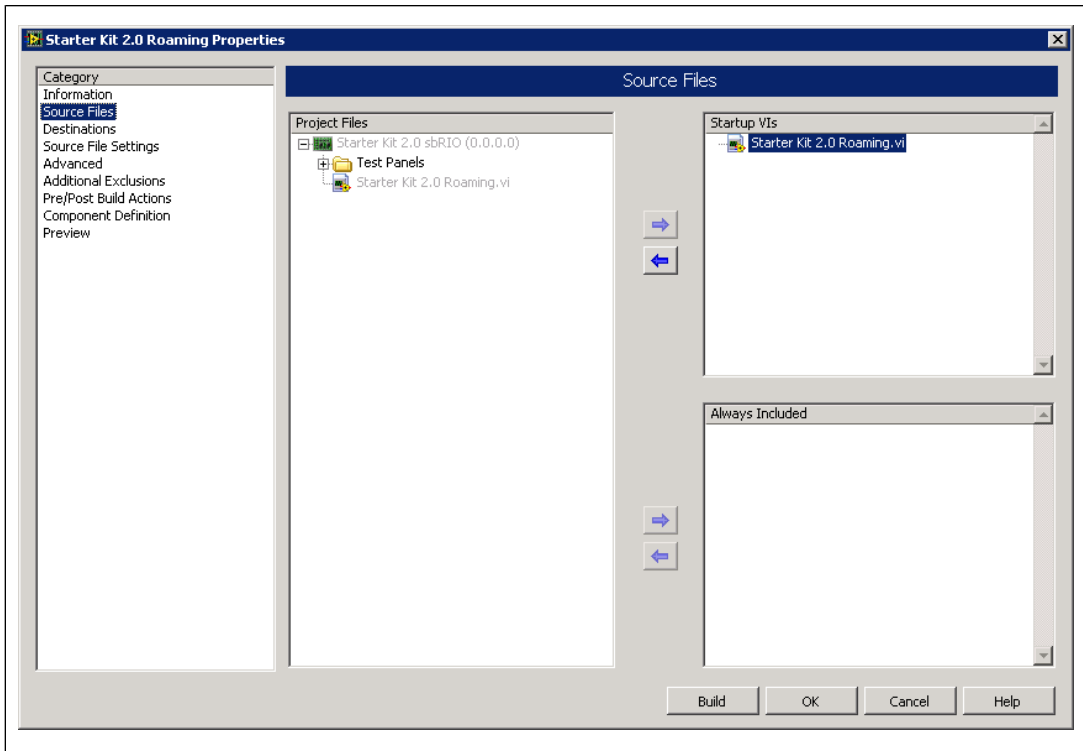

Figure 9. Selecting a Startup VI
5. From the **Project Files** tree, select the `Starter Kit 2.0 Roaming.vi`, located under the RT target, and click the right arrow button to move the VI into the **Startup VIs** list, as shown in Figure 9. VIs in the **Startup VIs** list execute when you launch the application.